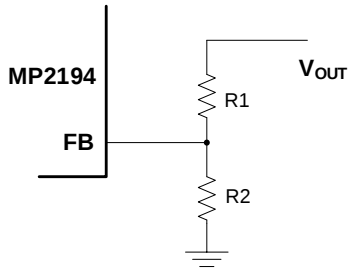

Figure 6: Feedback Network
The external resistor divider sets the output voltage (V_{OUT}) (see Figure 6). Select the feedback resistor (R1, typically between 100kΩ and 200kΩ) that reduces the V_{OUT} leakage current. There is no strict requirement on the feedback resistor. Select R1 to exceed 10kΩ. R2 can then be estimated with Equation (2):
Figure 6 shows the feedback circuit.